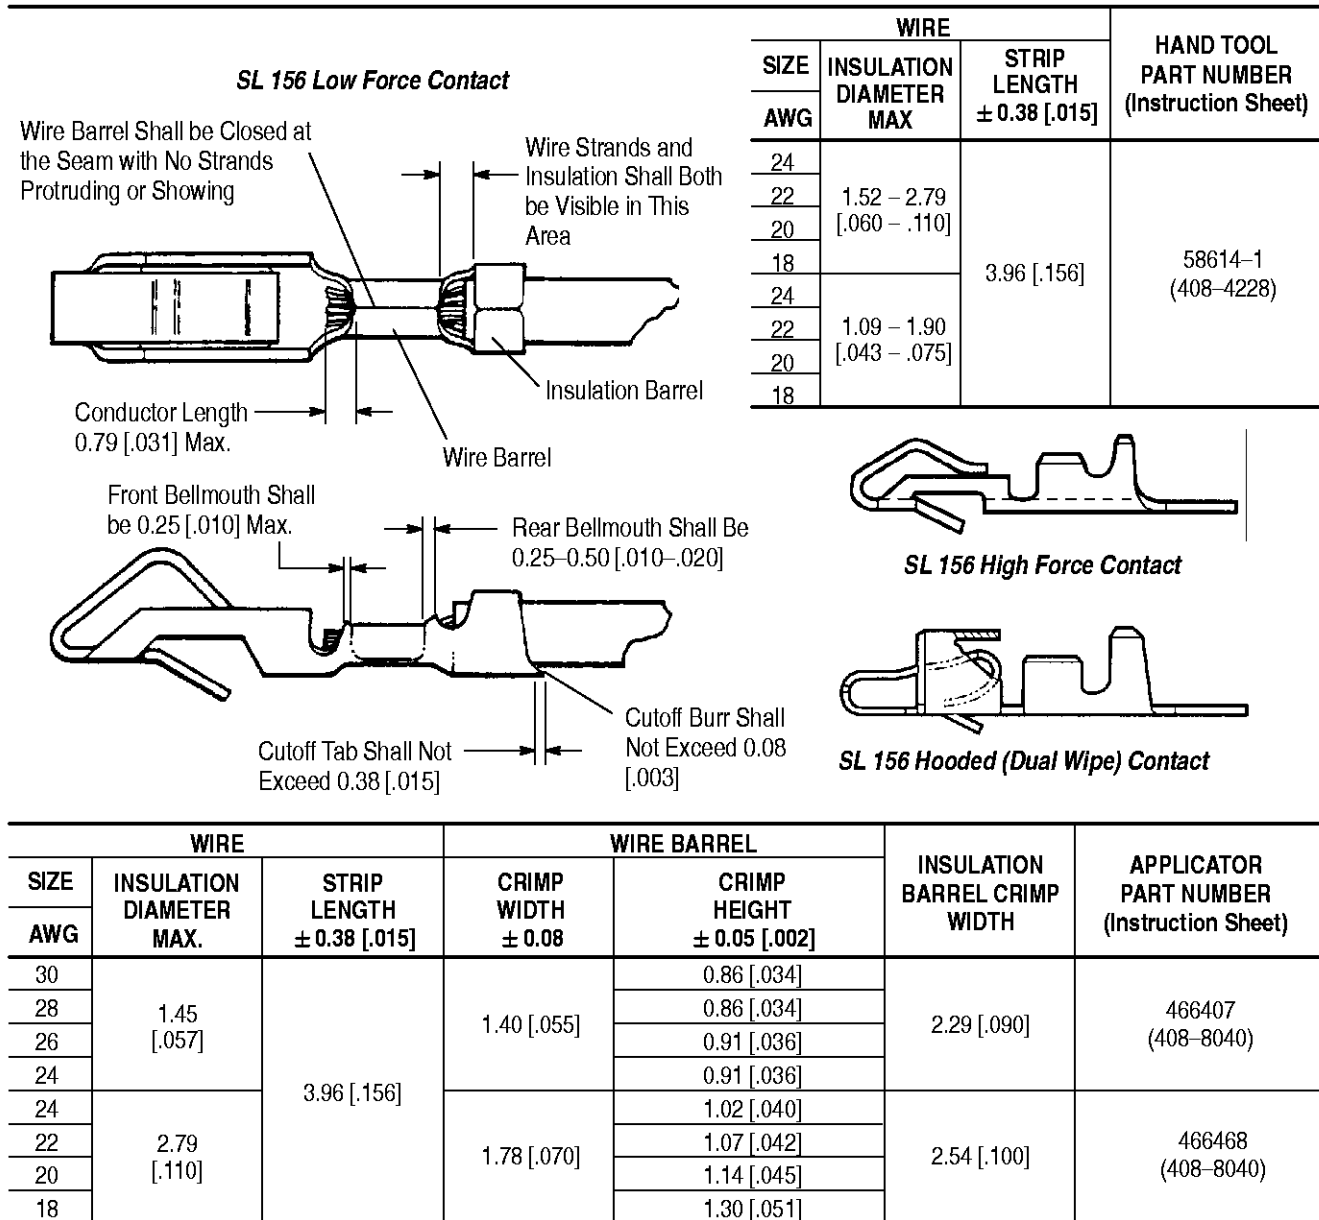

Figure 2
- Revised table in Figure 2
The contacts shall be crimped in accordance with the instructional material packaged with the tooling; refer to the table in Figure 2.
Wire barrel crimp width and height shall be as specified in Figure 2.
The end of the wire shall be flush with the front end of the wire barrel or extend 0.79 [.031] maximum after crimping. See Figure 2.
Insulation barrel crimp width shall be as specified in Figure 2.
For contact crimping, refer to the tables in Figure 2 for the appropriate hand tools and applicators. The instruction sheets, applicator instruction sheets, and customer manuals are referenced in Paragraph 2.5, Instructional Material.